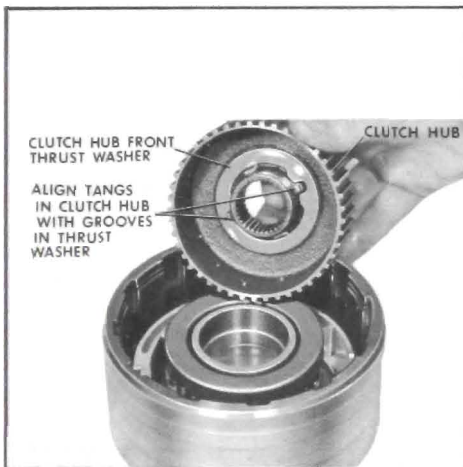

Figure 5-234
8. Install clutch hub front thrust washer to clutch hub (retain with grease) aligning tangs in clutch hub with grooves in thrust washer. Install clutch hub. See Figure 5-234.